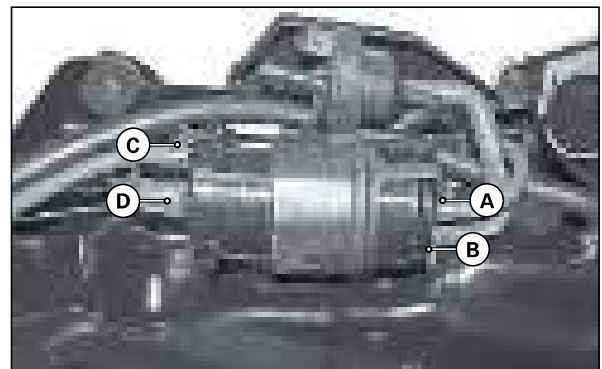

Fig. 4.38
- Disconnect the hose (A, B, C and D) from the canister. Now take out the canister along with purge valve. (Fig. 4.38)